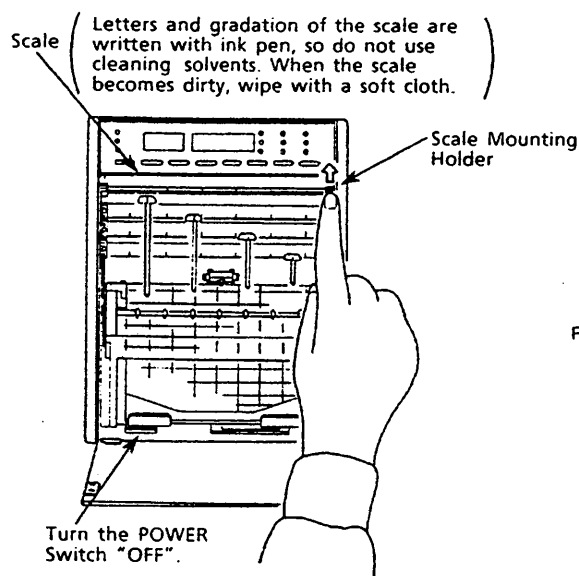

Figure 5.9 Turn the Scale
- (1) Open the recorder front door to turn the POWER switch "OFF". (see Figure 5.9.)
- (2) Turn the scale, with mounting holder corresponding to the pen to be replaced, upward. (see Figure 5.9.)